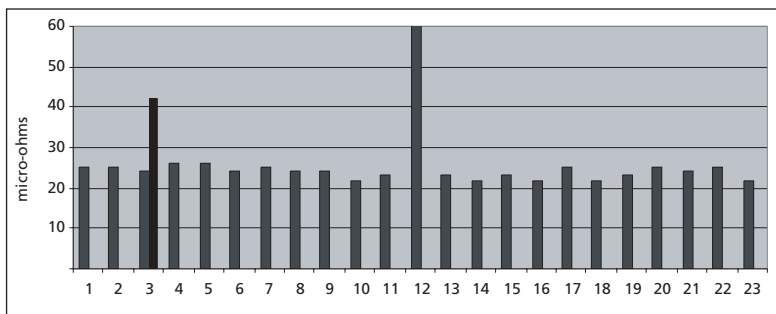

Figure 5: Intercell Connection Resistance Bar Graph
The graph in Figure 5 shows the data obtained from an actual 24-cell telephone (CO) battery. The peak at connector #12 (cell 12 to 13) is an intertier cable connection. Connector #3 was out of specification and it was determined that one of the two bolts was not properly torqued. It was retorqued and retested. It came within ten percent of the string average after retorquing.